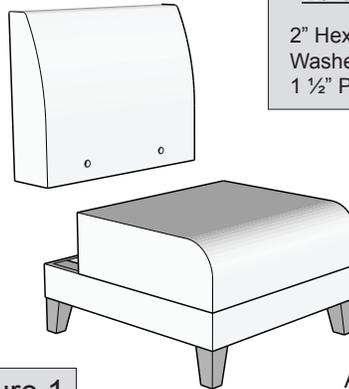

Figure 1
2. Lay back on a soft clean surface as shown in figure 1.